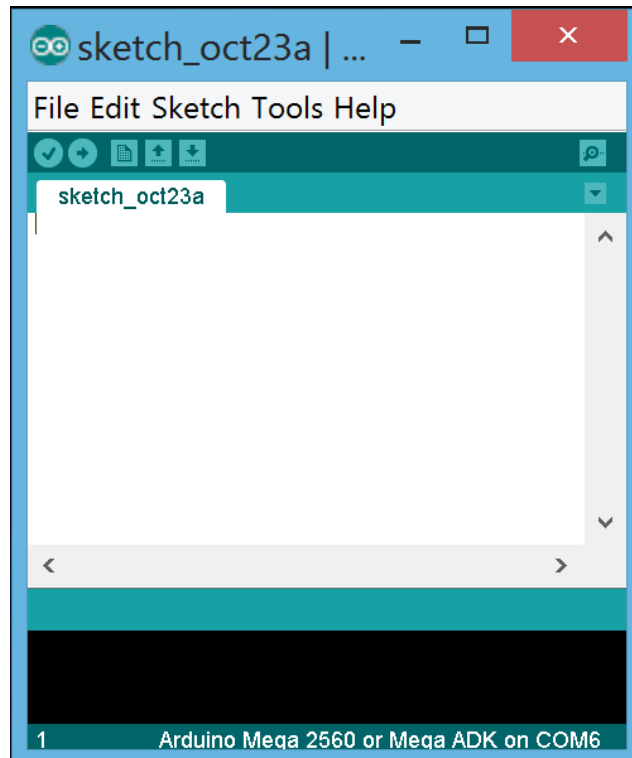

Figure 2.11: The Arduino IDE software
- Open the Arduino IDE software, arduino.exe. The software interface is shown in Figure 2.11.